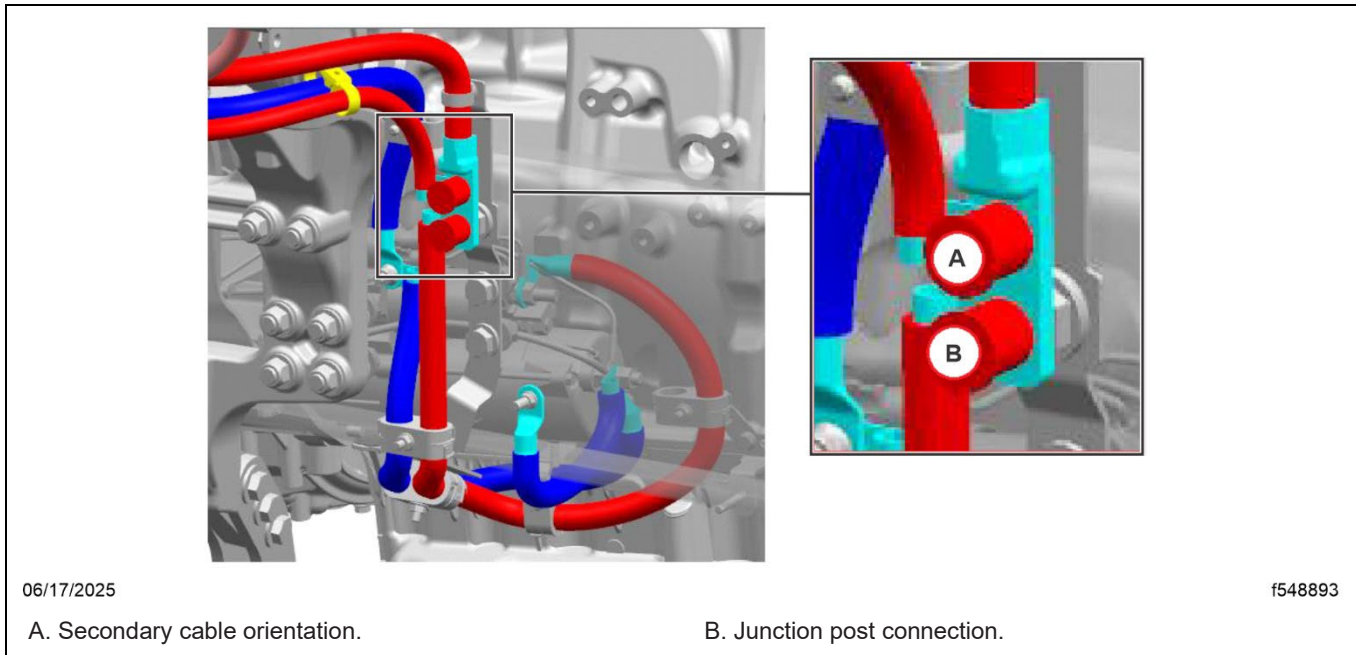

Fig. 4, Junction Post Configuration with Secondary Cable Connection
17. For cable systems with a secondary connection point, tighten the fastener 26 lbf·ft (35 N·m). See **Fig. 4**
18. Tighten the jumpstart-nut or stainless nut on the junction post 11 lbf·ft (15 N·m). See **Fig. 4**.